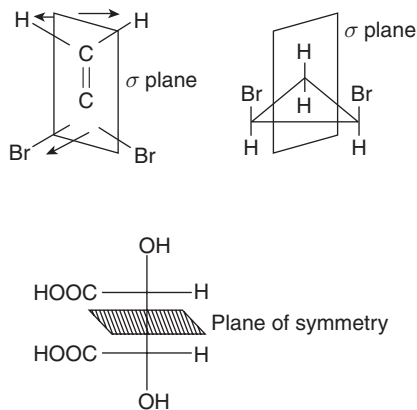

Figure 8 Compounds having plane of symmetry.
1. **Plane of symmetry:** The plane that divides an object into two identical halves is called a *plane of symmetry*. An orange can be divided by a plane into two identical halves so it is achiral. Our hand cannot be divided into two identical halves, that is, the hand does not have a plane of symmetry and hence it is chiral. Some compounds showing plane of symmetry are shown in Figure 8: